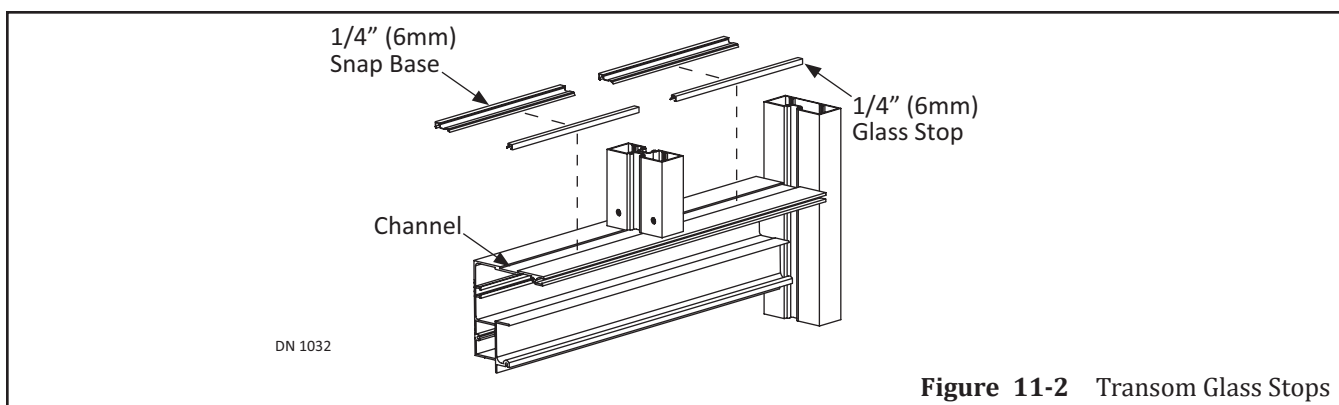

Figure 11-2 Transom Glass Stops
4. Snap each Glass Stop into each Snap Base. Please see Figure 11-2.